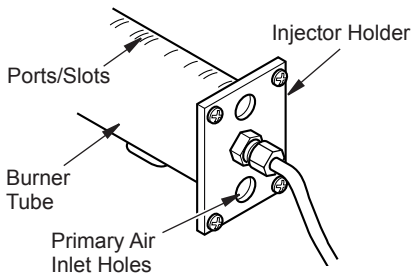

Figure 40 - Injector Holder On Outlet Burner Tube
2. Inspect burner, pilot and primary air inlet holes on injector holder for dust and dirt (see Figure 40, page 27).